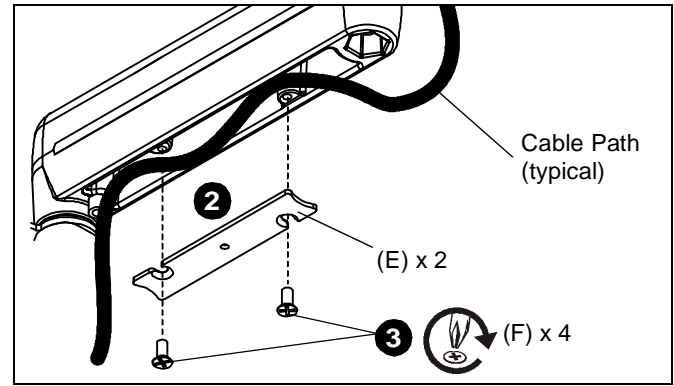

Figure 9
- Carefully insert cables in cavity located in upper portion of mount arm. (See Figure 9)
- Install cover (E) with two 8-32 x 3/8" Phillips screws (F).